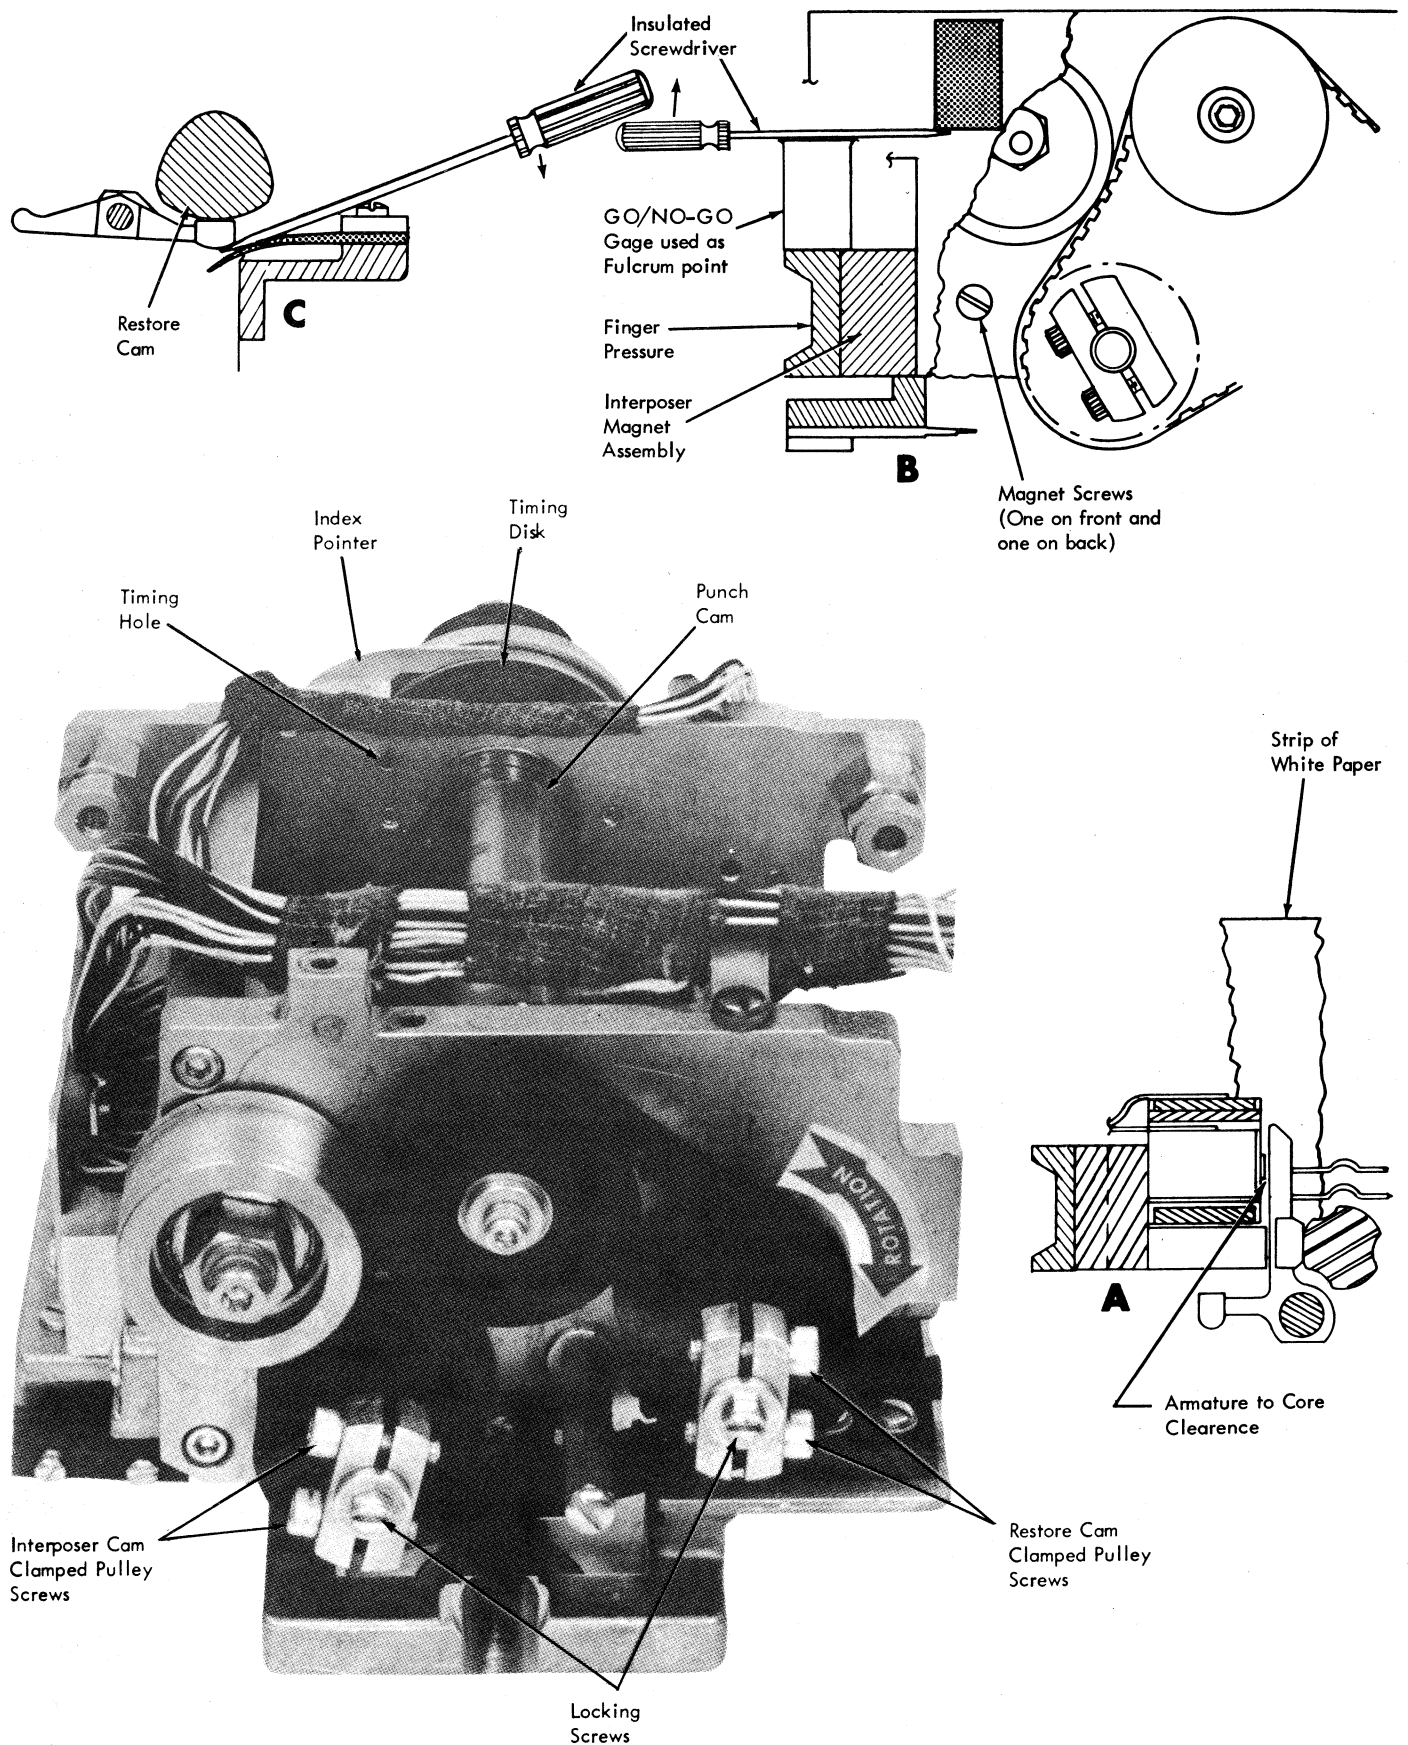

Figure 4-45. Cam Timing
1. Rotate the punch unit and look for the interposer cam lobe that gives the least armature-to-core clearance; or longest contact time if no clearance exists. A strip of white paper, on the side of the armature opposite the viewer, makes this clearance (contact time) more apparent (Figure 4-45, Insert A).
2. Loosen locking screw and clamped pulley screws on rear end of interposer camshaft. If restore cam is to be retimed, loosen its locking screw and clamped pulley screws (Figure 4-45).
6. Use an insulated screwdriver (Figure 4-45, Insert B) to facilitate the adjustment by amplifying the armature motion.
4. Use an insulated screwdriver (Figure 4-45, Insert C) to facilitate the adjustment by amplifying the restore lever motion.